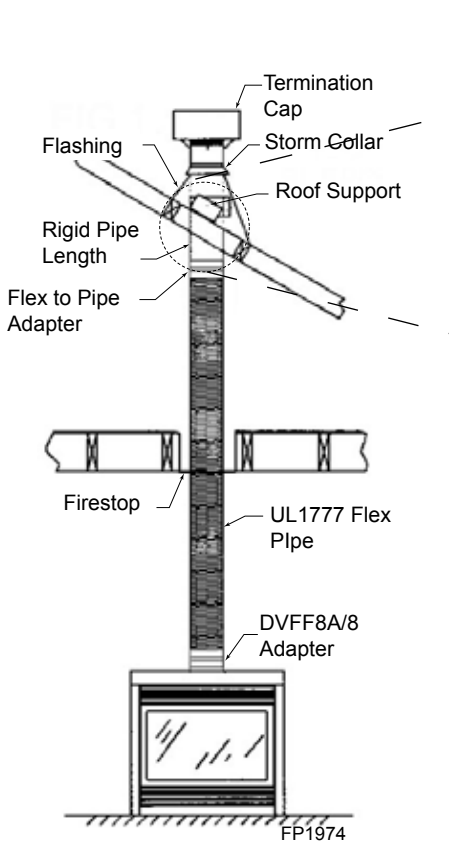

Figure 28 - Typical Vertical Flex Vent Installation
2. Install firestop spacers, *Figure 28*, when penetrating ceiling, attic spaces, or walls.
4. Use only listed and approved terminations and accessories, installed per the installation instructions and *Figure 28*.